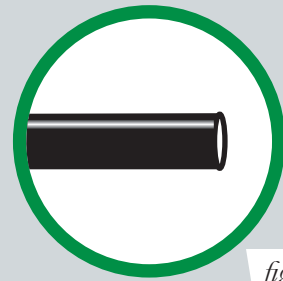

fig. 15
When cutting air lines, use a sharp knife or a hose cutter and make clean, square cuts (Fig. 15). Do not use scissors or wire cutters because these tools may deform the air line, causing it to leak around fittings. Do not cut the lines at an angle.
- a. Check the air line connection by deflating the spring and removing the line by pulling the collar against the fitting and pulling firmly on the air line. Trim 1" off the end of the air line. Be sure the cut is clean and square (see Fig. 15). Reinsert the air line into the push-to-connect fitting.